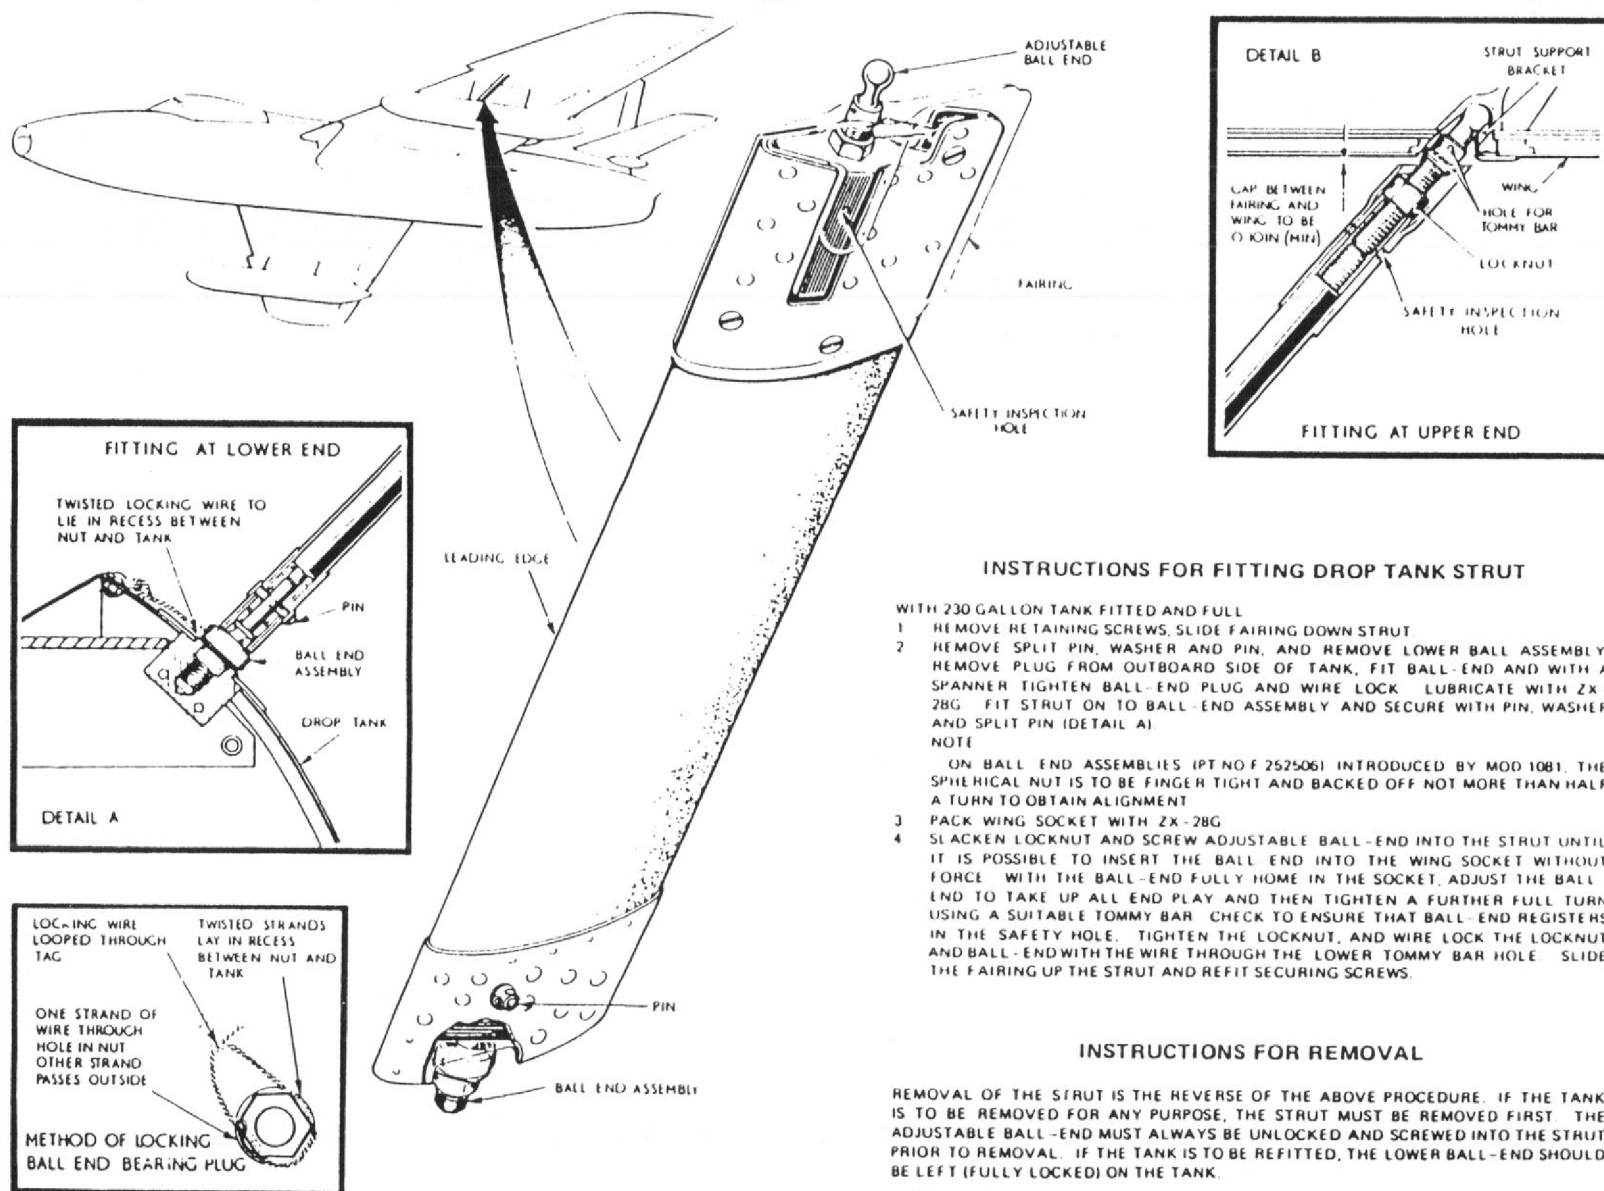

Fig.2 Fitting drop tank strut
- (6) Plug in the unsleeved connector (10) on the drop tank to the sleeved connector (9) on the pylon.
- (7) By means of the crutching tool raise the tank until the fore and aft spigots (7) are engaged in the holes provided in the sole plate (11) of the pylon, and the tank adapters (6) are making contact with the fuel and air valves in the valve body (5). Check that the electrical cables from the tank to the plugs are not trapped between the tank and the sole plate.
- (8) Apply the final crutching load by using a torque wrench set to  $95 \pm 2$  lb ft, attached to the adapter on the crutching tool.
- (9) Remove the torque wrench and crutching tool, connect socket (13) to the breech cap and replace the access panel into the wing.
- (10) Reconnect the safety breaks (4) and replace the rear doors (3) on all pylons.
- (11) If Mod.896 is embodied, fit the special bracing strut between the drop tank and the wing as described on Fig.2 after filling the drop tank with fuel.
- (12) Immediately before flight replace the armament safety break.